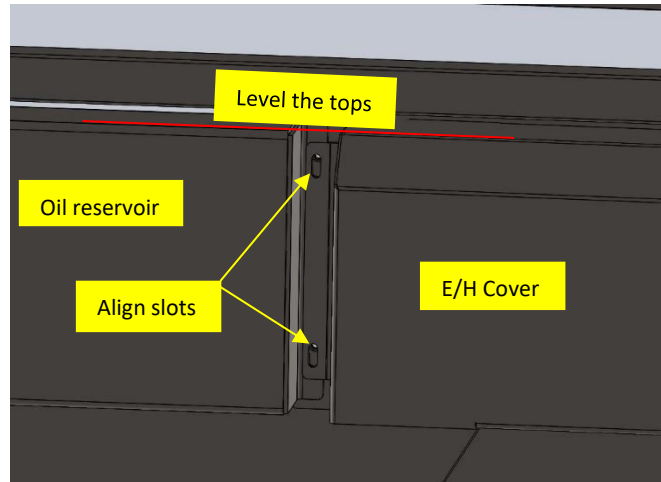

Figure 2
2. Position the E/H cover assembly (**ITEM 1**) with the slots in the hinged portion of the assembly aligned to the slots in the oil reservoir where the button head bolts were removed. While making certain the top of the E/H cover and hydraulic reservoir are level, replace the button head bolts to secure the cover and reservoir to the headache rack filler sheet. Figure 2